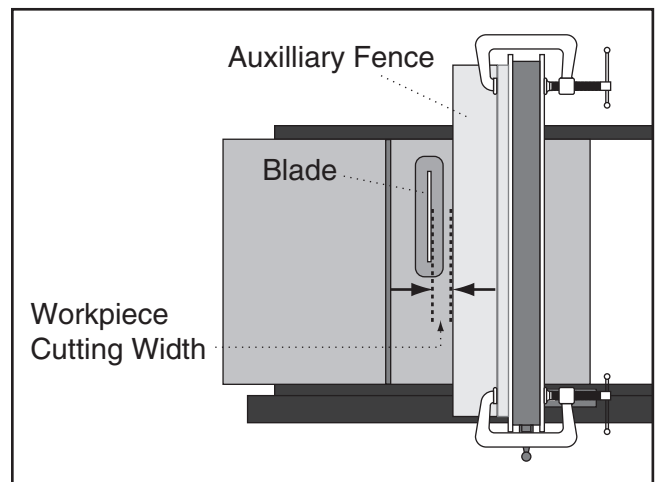

Figure 109. Example of adjusting ripping distance between blade and auxiliary fence.
- Place the auxiliary fence on the table and clamp it to the fence at both ends, then adjust the distance between the auxiliary fence and the blade—this determines how wide the workpiece will be ripped (see the example in **Figure 109**).